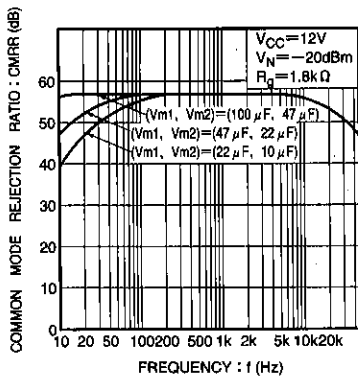

Fig. 10 Common-mode rejection ratio vs. frequency
- (1) Maintain a ratio of 2 : 1 for the values of the capacitors connected to pin 2 (V_{m1}) and pin 6 (V_{m2}) to keep the ripple rejection ratio stable. If this ratio is maintained, the ripple rejection ratio will not vary significantly even if the capacitance values are halved.
- (2) If the value of the capacitor connected to pin 2 (V_{m1}) in the example is doubled, the bass-region CMMR will be +6dB, and if it is halved, it will be -6dB (see Fig. 10).